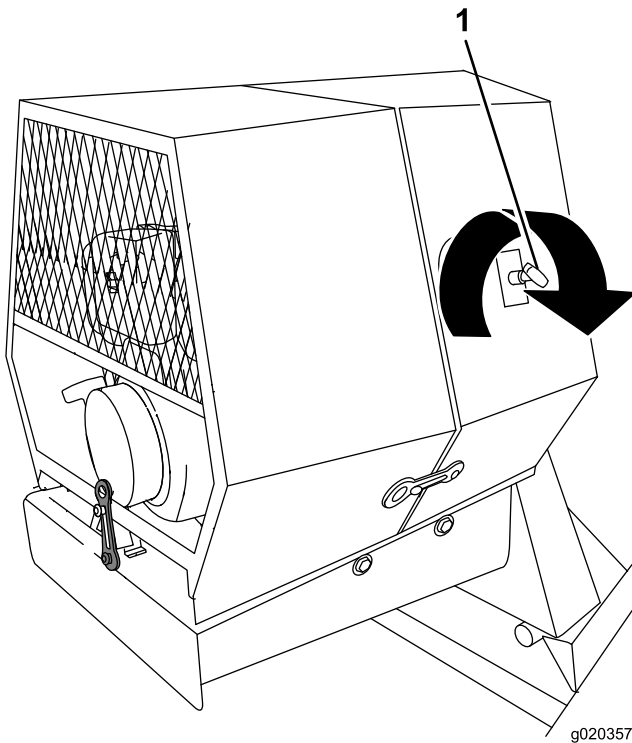

Figure 27
4. Rotate the engine speed control handle counterclockwise to unlock it, pull it all the way out, and lock it by rotating it clockwise (Figure 27).